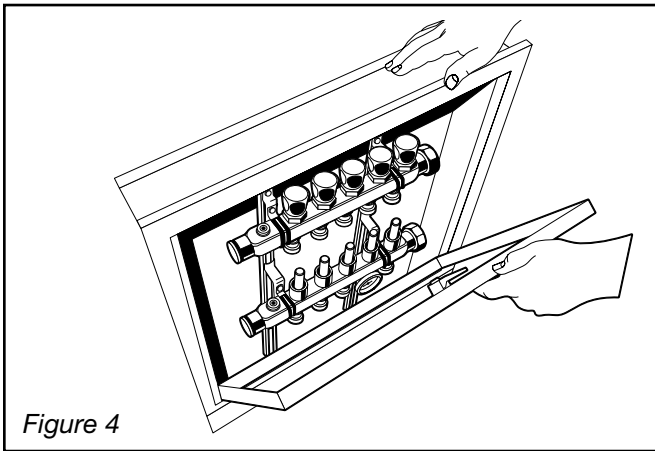

Figure 4
2. Insert the lower portion of the door into the bottom of the door frame. See Figure 4.